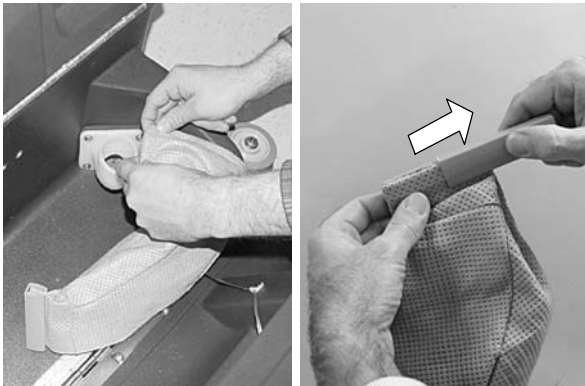

FIG. 27
2. Empty or replace the dust control bag. Remove the bag clip to empty bag (Figure 27). Do not allow bag to fill beyond half full.